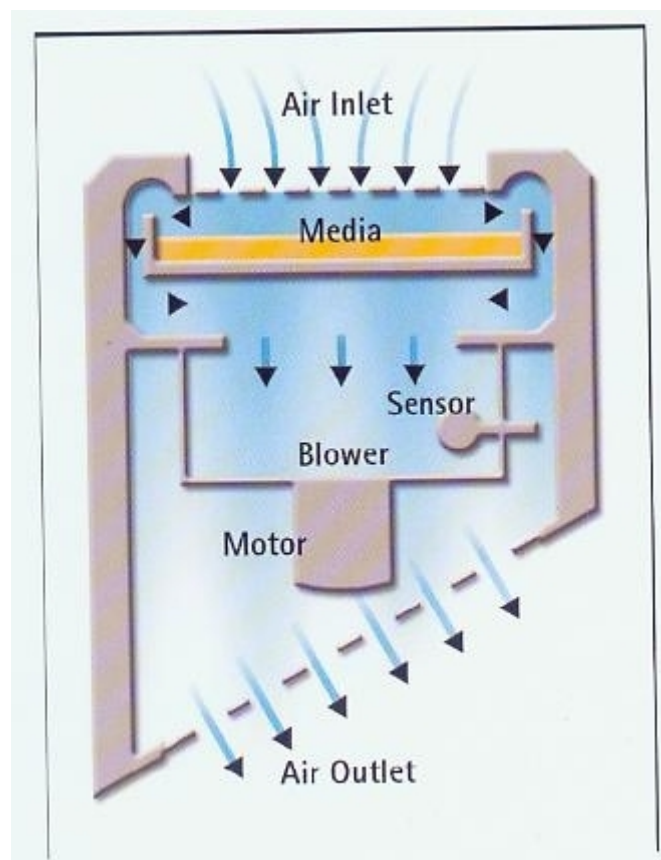

**Fig.: 3-** Close View Of Keypad
- The keypad (Fig: 3) is used to operate keys. Entry of a parameter is ensured by a beep sound when a key is pressed. The keypad consists of 6 keys. Function of each is described in the following table. LCD display has 3 lines and 20 characters and it displays the status of the battery.
4. **Programming:** Press the function key until the screen displays **Sampling Quantity** (Fig: 3)
**(Fig.: 3)**